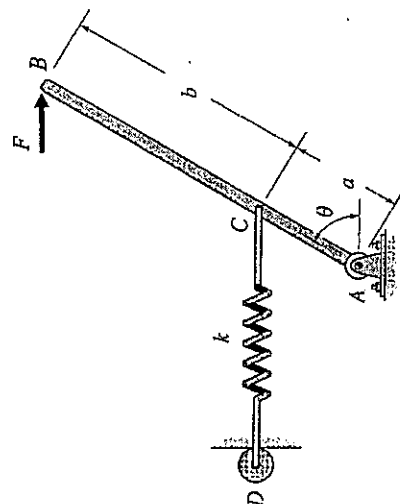

Figure 1
1. This paper contains **FOUR (4)** questions and comprises **SEVEN (7)** pages.
- 1(a) A spring loaded lever mechanism has a horizontal force, F , applied at B, and is in equilibrium with the spring attached as shown in Figure 1. The rigid bar, ACB, has an angle, θ , relative to the horizontal plane at A. The spring CD, is connected to the rigid bar at C from a roller support at D. The linear spring has a stiffness of k . When the load, F , is removed, the spring will return the mechanism back to its initial position on the vertical plane where $\theta = 90^\circ$.